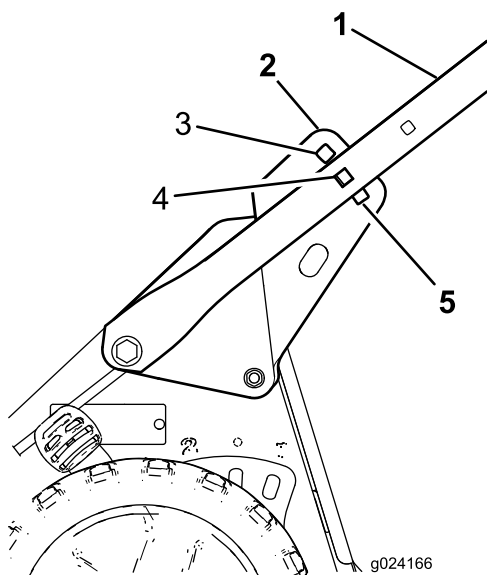

Figure 5
5. Stand behind the machine in the operating position to determine the handle height that is most comfortable for you (Figure 5).